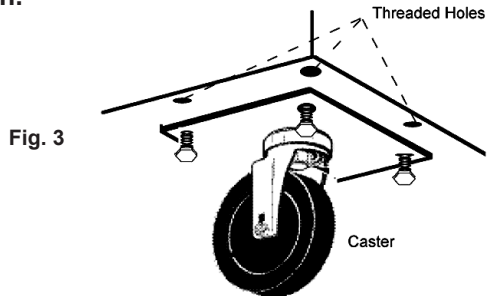

Fig. 3
Please note that Traulsen units are not designed to be moved while on legs. If the unit requires moving, a pallet jack or forklift should be used to prevent damage. For installing casters, the casters are “plate” type, and require the use of four (4) bolts each to secure them firmly to the cabinet bottom at each corner (see figure 3). The caster bolts are tightened using a 1/2” socket wrench.